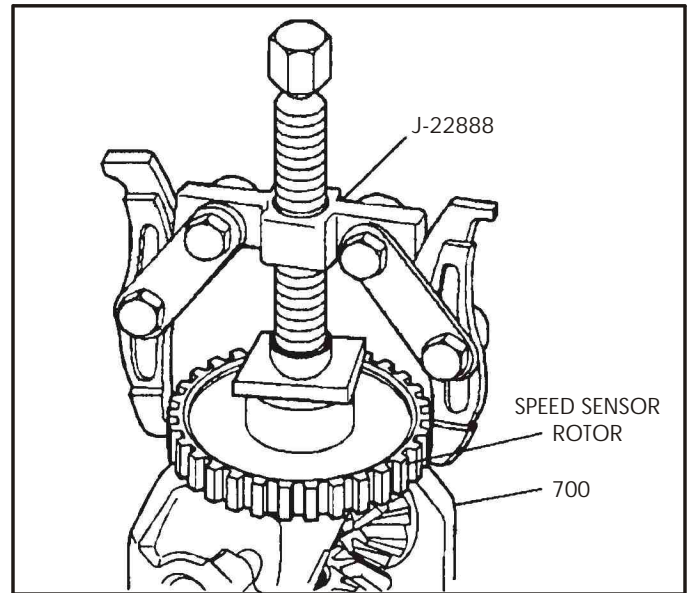

Figure 90
24. If removal is necessary use puller J-22888 and a piece of metal stock in order to remove, as shown in Figure 90.